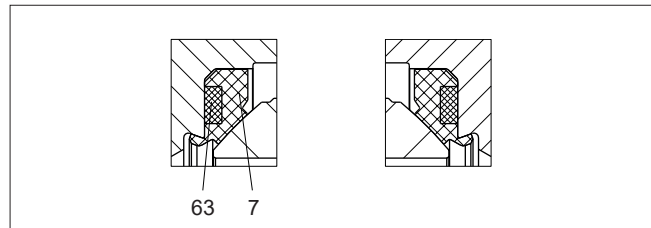

Fig. 20 P-seat
- **P- and S-seats:** Place the back seal (63) in the ball seat (7); see Figures 20 and 21. Place the seat in the body (1).